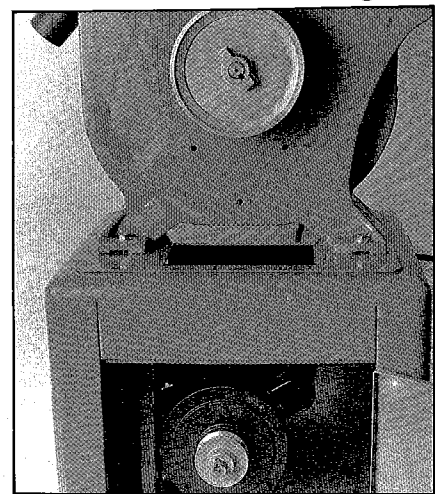

Fig. 2
3. Remove the V-belt. See figure 2.